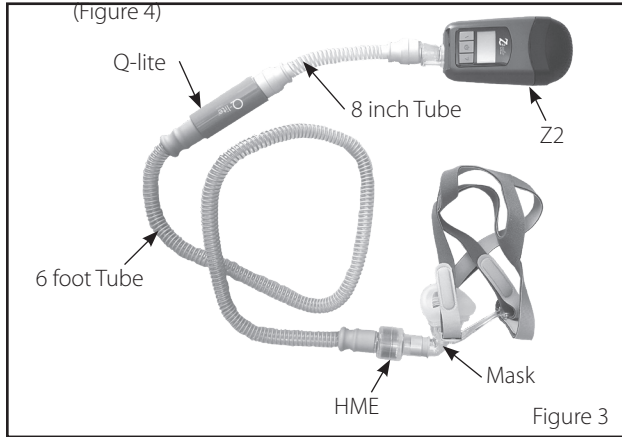

Figure 3
2. Connect the other end of the **8 inch CPAP Tube** to one end of the **Q-lite**. Connect the other end of the **Q-lite** to the **6 foot CPAP Tube**. Connect the end of the **6 foot CPAP Tube** to the **HME** and the **HME** to the mask. (Figure 3)